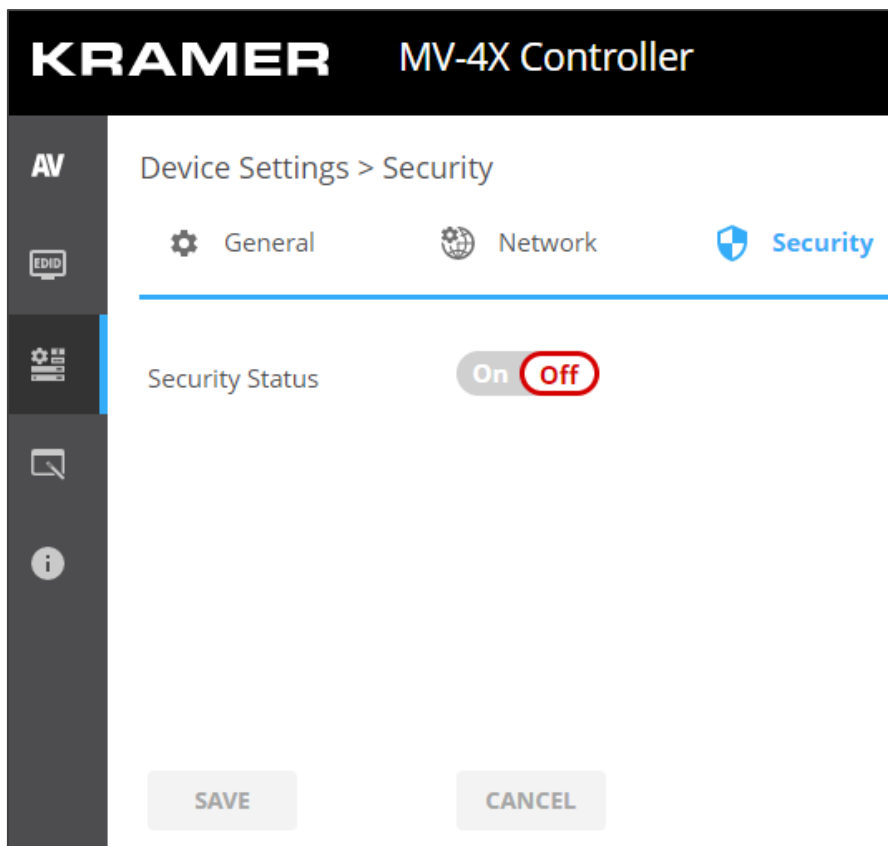

Figure 34: Device Settings – Users Tab
2. Select Users tab (see Figure 34).